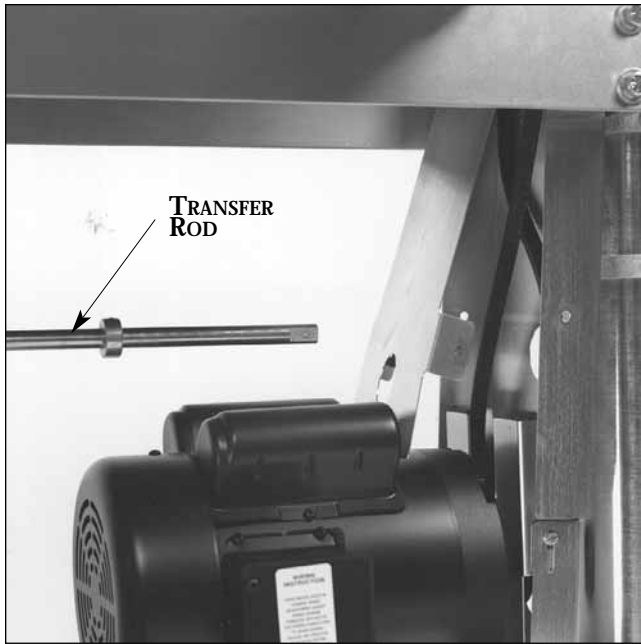
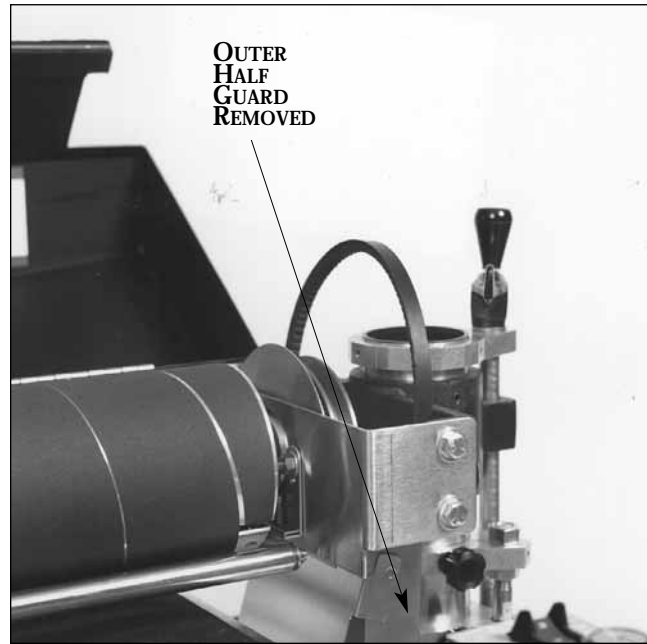

Fig. 37. Removing belt guard and transfer rod.
Fig. 38. Removing main motor V-belt drive.
1. Remove the lower outer belt cover by removing the four 10-32 screws holding it in place (see Fig. 37 and Fig. 38). Remove the two 10-32 screws holding it in place; pull the middle cover to the left. Take the V-belt off the pulley.